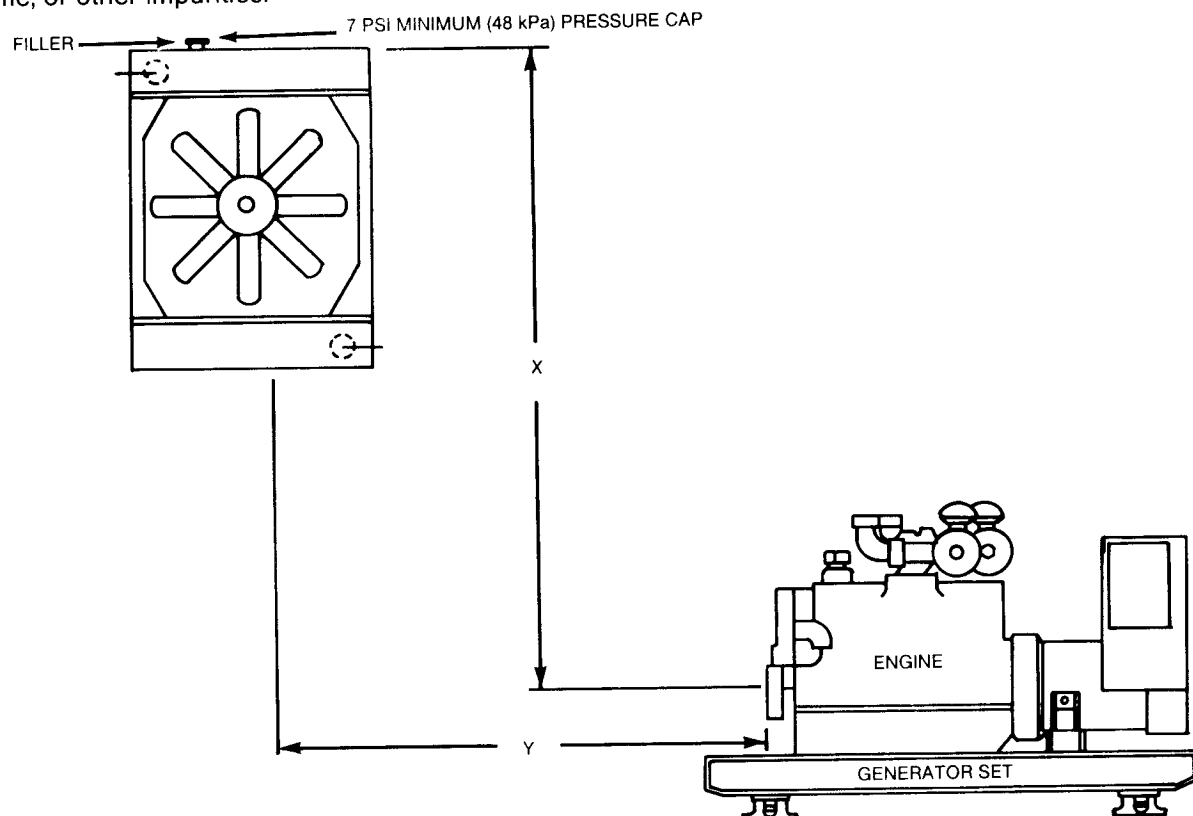

FIGURE 6. REMOTE RADIATOR INSTALLATION
The two key design considerations in a remote radiator installation are the vertical distance (X) from the engine centerline to the radiator top and the horizontal distance (Y) from the engine front to the radiator centerline (see Figure 6). These distances determine if any additional equipment is required such as a surge tank, auxiliary pump, or hot well. Because of the many design considerations, all remote radiator installations must be engineered to insure that the system will function properly. Follow the instructions of the consulting engineer when installing a remote radiator system. Additional information is contained in Technical Bulletin T-030.